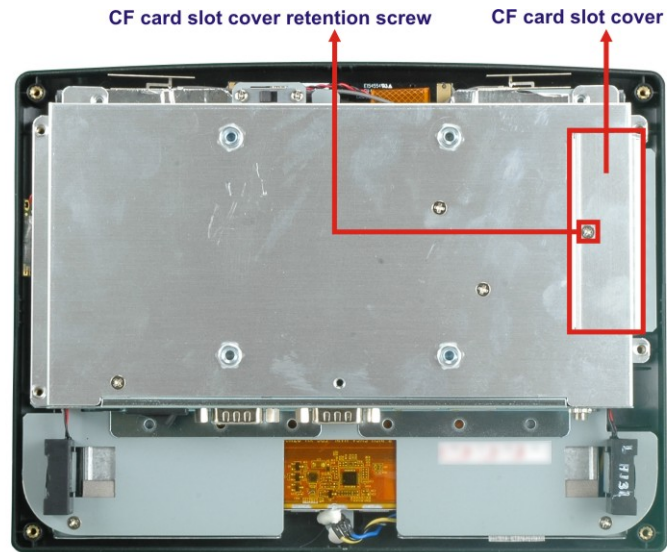

Figure 2-2: CF card slot location
Step 1: Locate the CF slot cover. Remove the retention screw and CF slot cover (**Figure 2-2**).